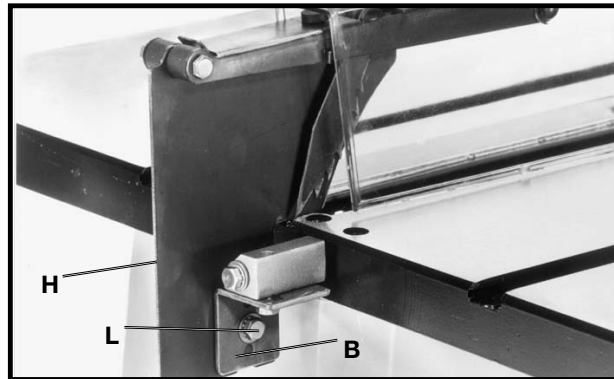

Fig. 19
7. Assemble splitter (H) Fig. 19, to splitter support bracket (B) as shown using M6x1x20mm hex head screw (L), 1/4 in. external tooth washer, and 1/4 in. flat washer.